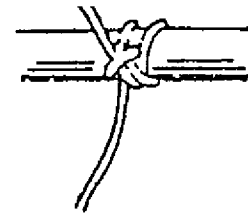

Fig. 3-30-4
- d. With your right hand, pass the end under, around, and through as shown in the diagram, then tighten. With any excess rope, tie single hitches. (Fig. 3-30-4)